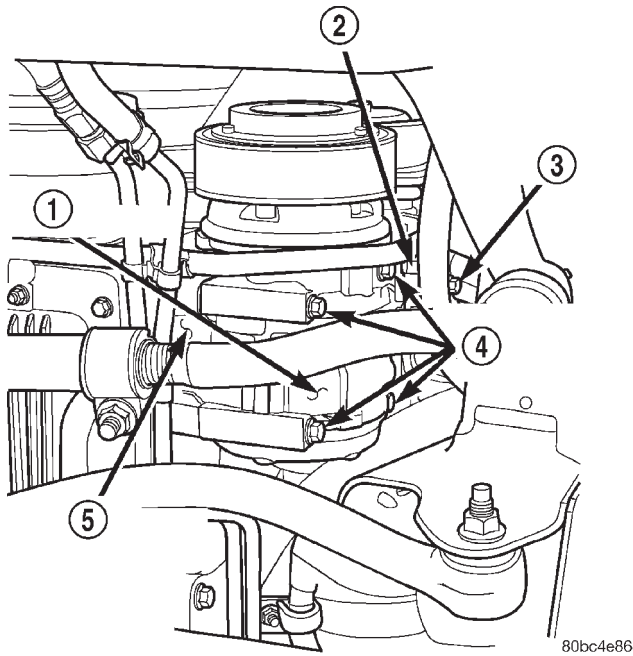

Fig. 4 Compressor Position & Orientation
(1) Lift the compressor into position and install the (4) mounting bolts (Fig. 4). Torque the bolts to 41 N·m (30 ft. lbs.).
(2) Connect the compressor electrical connector (Fig. 4).
(3) Install both refrigerant lines on the compressor (Fig. 4). Make certain the sealing O-rings are free of tears and well lubricated with R-134a refrigerant oil. Torque the line retaining bolts to 22 N·m (200 in. lbs.).
(4) Install the front splash shield.
(5) Lower the vehicle from the hoist
(6) Install the accessory drive belt on the compressor clutch. Refer to Accessory Drive Belt in Group 7, Cooling System for the procedure.
(7) Charge the refrigerant system. Refer to Refrigerant System Charge under Service Procedures in this group for the procedure.
(8) Connect the negative battery cable